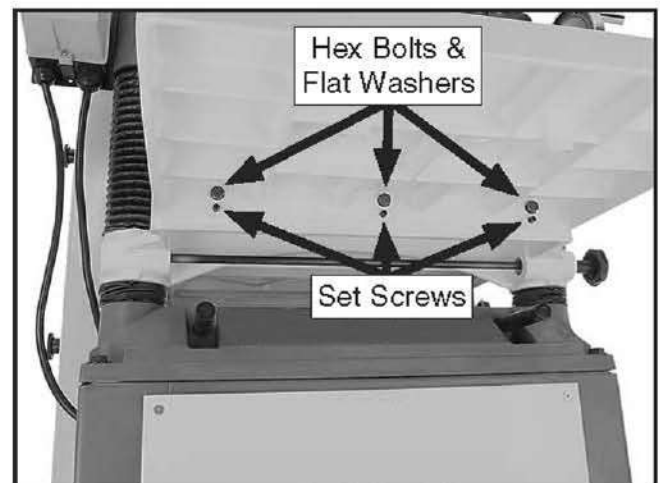

Figure 8. Front extension wing installed
1. Install (3) M8-1.25 x 20 set screws in the holes in the bottom of the wings (see **Figure 8**).
2. Attach the table extension wings to the planer table with (3) M8-1.25 x 30 hex bolts, 8mm lock washers, and 8mm flat washers, as shown in **Figure 8**, but do not fully tighten the bolts at this time.